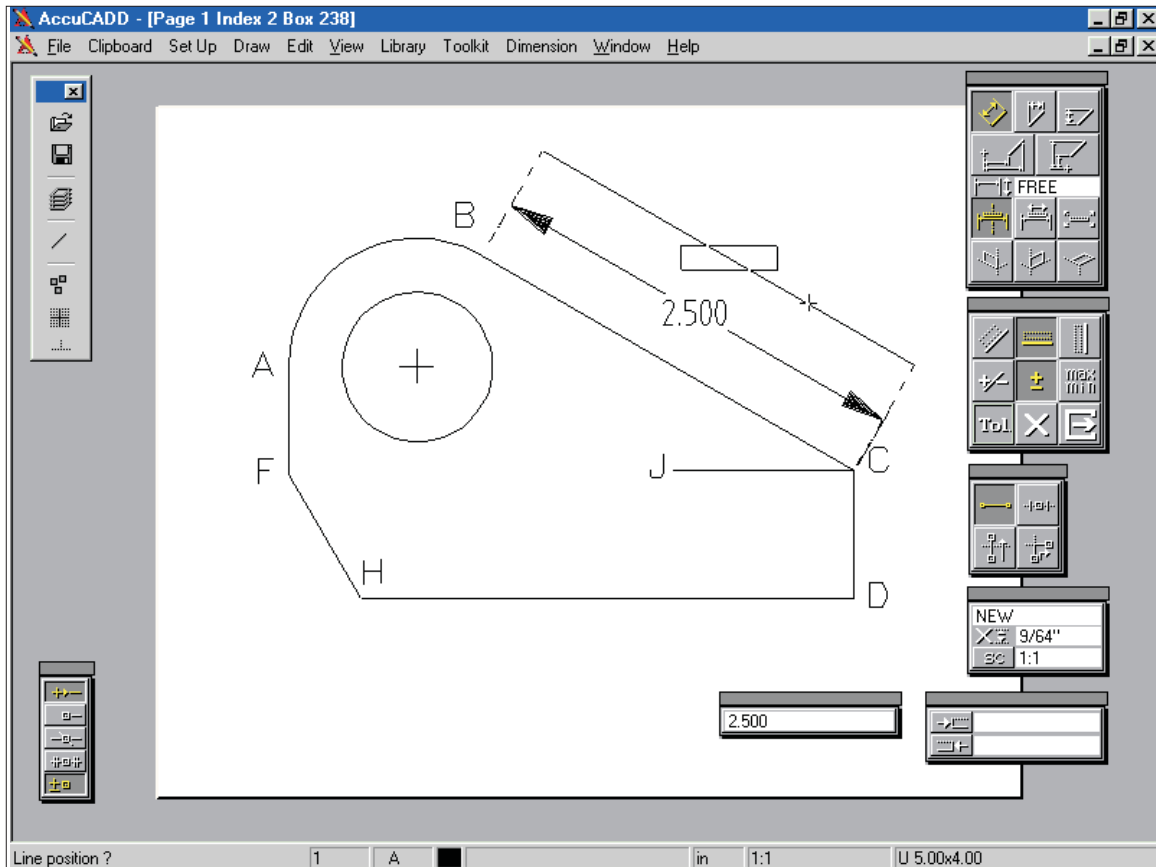

Figure 7-5: Measuring overall length
- [] Plant the “dimension set” as Figure 7-5, then touch to confirm.